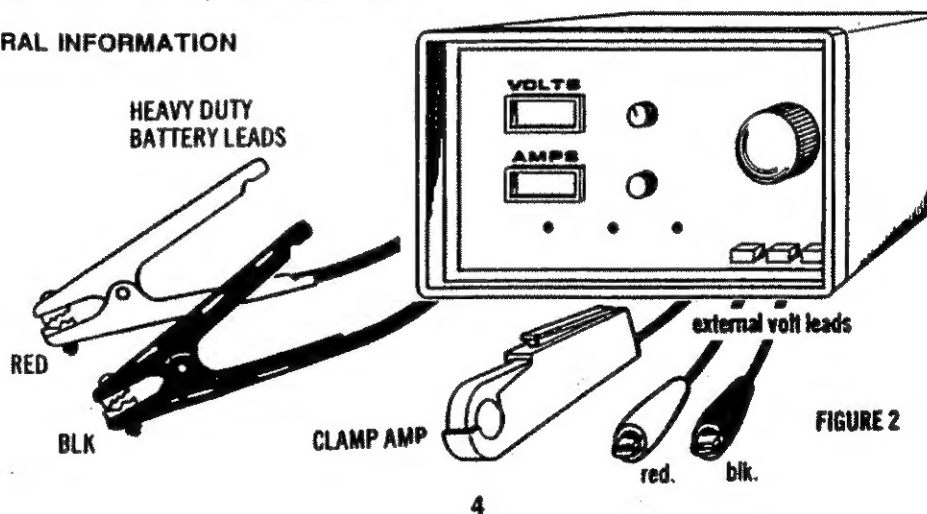

FIGURE 2
- To perform "Battery Load Test" - to the retainer sleeve around the negative cable in back of the Analyzer (see Fig. 2) Connect with NEG-ARROW pointing toward battery.